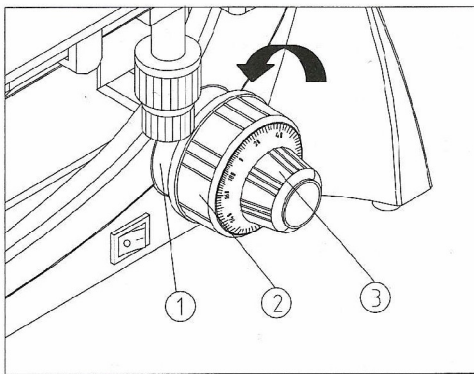

图 27
3.3.8 Adjusting the Tension Adjustment Collar (Fig.27)